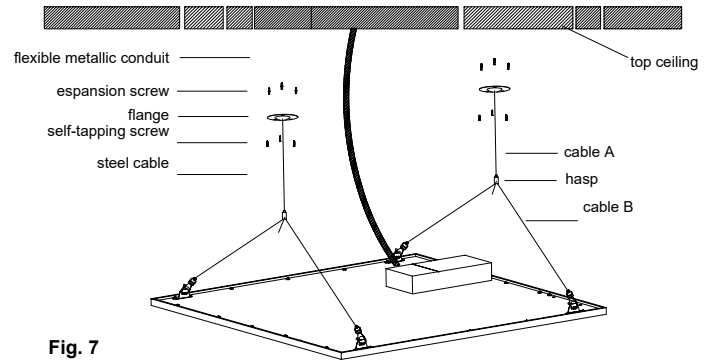

Fig. 7
2. Pull the end cap of cable A through the provided flange and make sure the end cap is positioned in the flange. Attach the flanges to the ceiling by the self-tapping screws. (Fig. 7)
3. Insert the end of cable A into the hasp attachment on cable B then adjust cable A to the desired height and adjust cable B to the desired angle. (Fig. 7)
4. Hook the luminaire up to the hooks attached to the ends of cable B and make final adjustments. (Fig. 7)